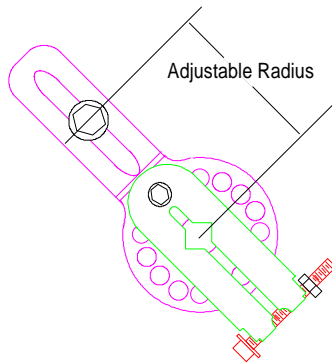

Figure 2: Actuator Crank Arm Radius
2. Set the actuator crank radius length for the rotation required. If the actuator rotation is 160° and the damper is 90°, the actuator crank length is typically set at 2-1/16 inch radius as shown in Figure 2. The damper crank arm will be set at 2-7/8 inch radius. At this position, the effective torque available to the damper shaft will be approximately 1.4 times the rated actuator torque. Thus an M130 produces 70 in·lb working torque available at the damper, and an M150 would produce 210 in·lb.